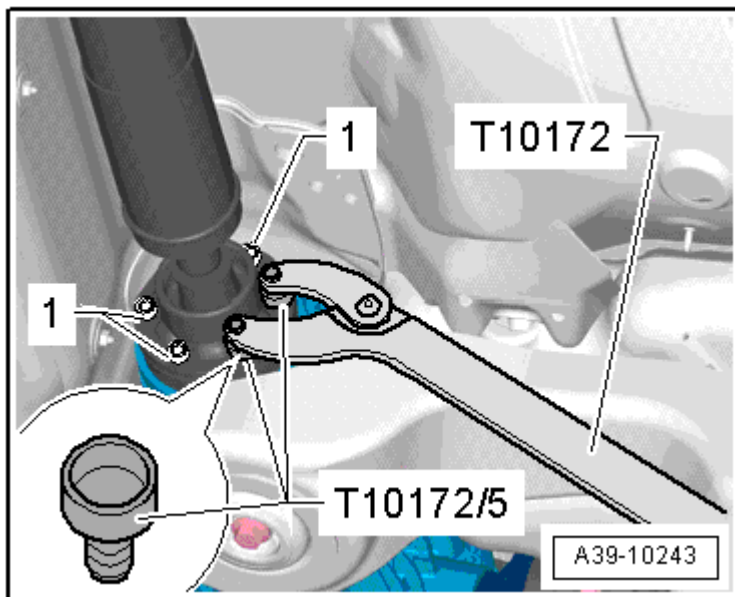

Fig. 25: Locating Driveshaft Bolts
Follow the tightening sequence for attaching the driveshaft bolts to the rear final drive, refer to Fig. 25.
- Tightening specification and sequence, refer to **Fig. 25**